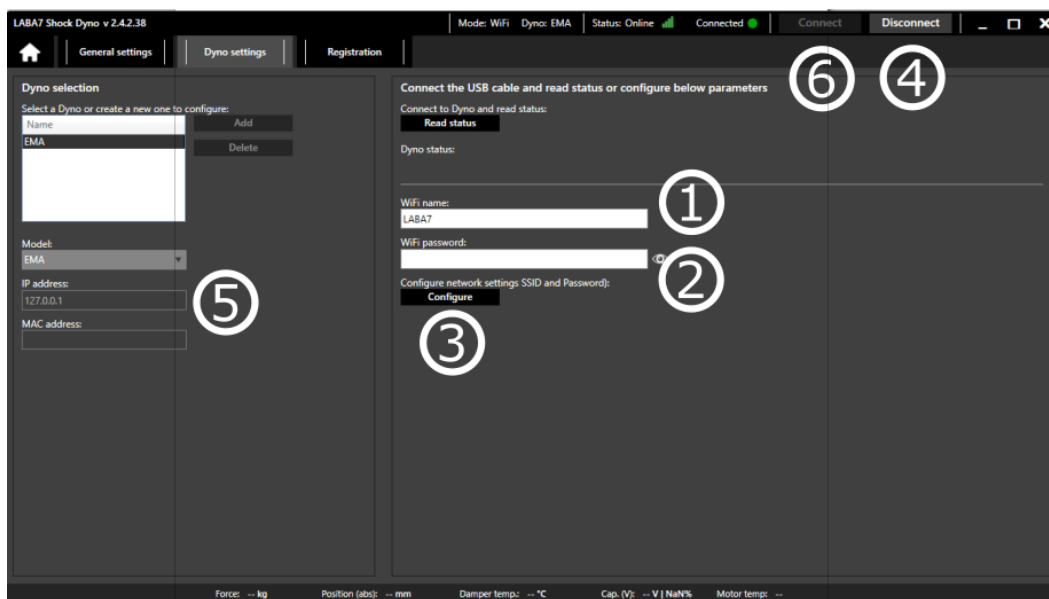

Figure 17
3. Enter Wi-Fi name (Figure 17 – Step 1).
4. Enter Wi-Fi password (Figure 17 – Step 2).
5. Click on Configure button (Figure 17 – Step 3).
6. Once you get notification about successful Wi-Fi connection, press  (Figure 17 – Step 4).
8. Change the IP address to the one which is now being showed in the screen of the device. (Figure 17 – Step 5).
9. Press  (Figure 17 – Step 6).